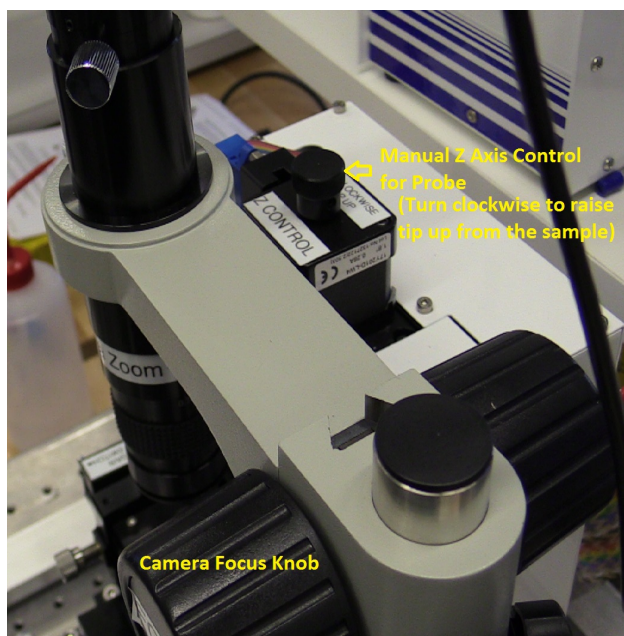
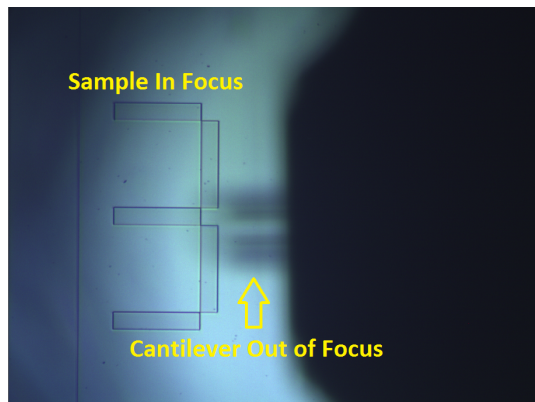

Figure 26: Z-motor and camera focus knobs
Figure 27: The sample is in focus while the cantilever is not, when there is a safe distance between the two.
After turning everything on, adjust the focus knob (see Figure 26) so that the camera is focused on the sample holder (or sample - you can insert a sample if you'd like at this stage using the instructions in Section 6.4). **The cantilever/probe should be out of focus** (see Figure 27). Keeping an eye on the camera
You should have already aligned the camera back when you were starting up the software to confirm the Range Check was working properly (it should look like in Figure 27) - now is a good time to adjust the focus (see Figure 26) and instead focus on the cantilever (like in Figure 22); it will make laser alignment easier.
3. **MAKE SURE THE TIP IS NOT TOO CLOSE TO THE SAMPLE.** If the sample is in focus, the cantilever should be out-of-focus – refer to Fig. 27 below. Make minimal adjustments to the X-Y micrometers labeled S1 and S2 to move the area of interest of the sample under the tip.
1. Move the probe module down by turning the Z-motor knob (Fig. 26) while **physically** monitoring the tip-sample distance, until the tip is few mm away from the sample surface.